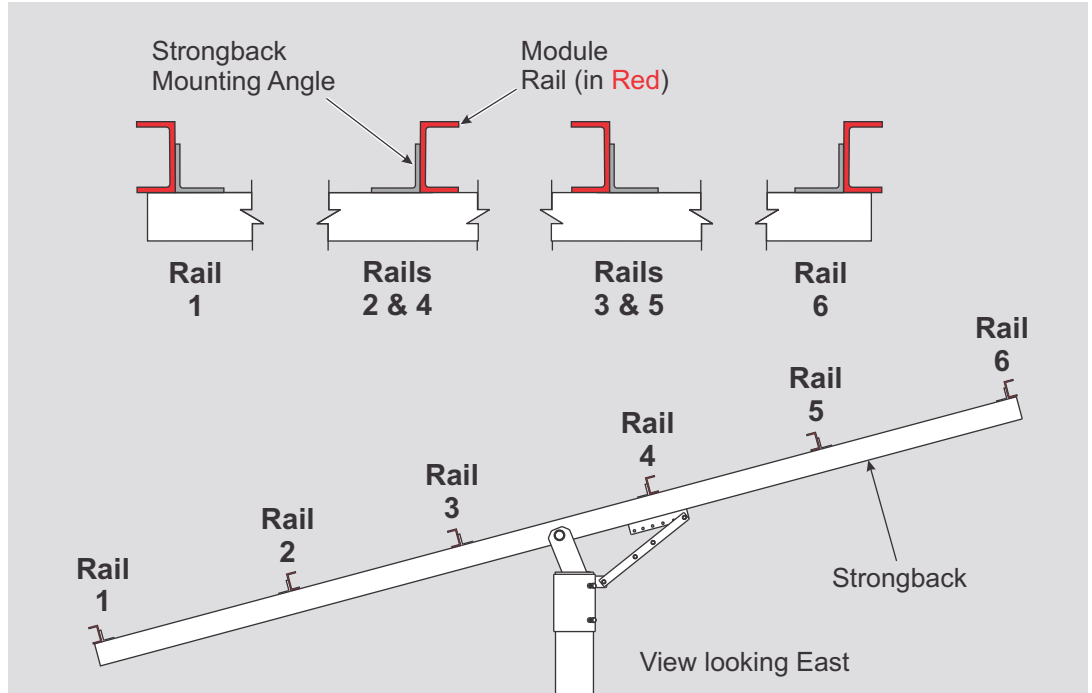
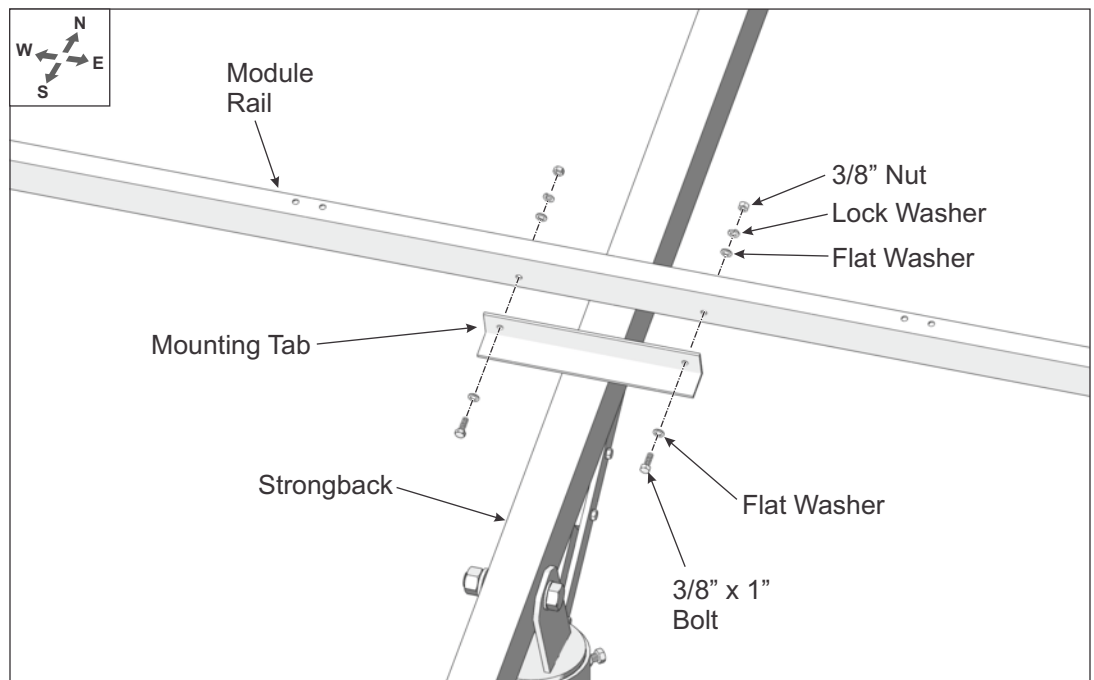
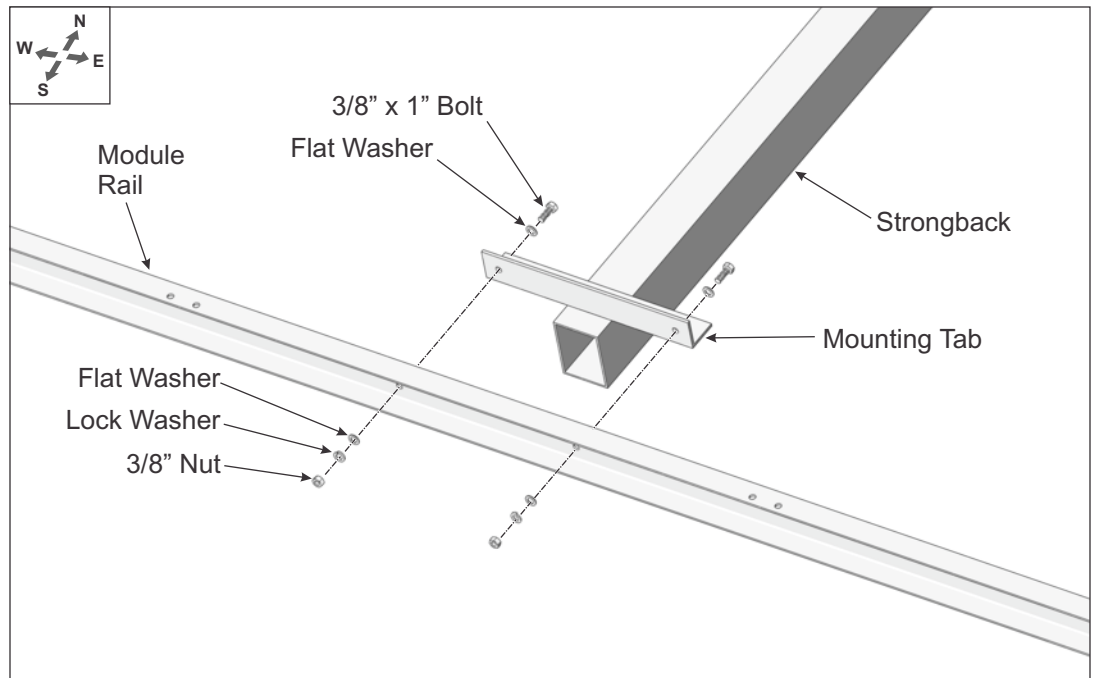

Figure 3-1: Orientation of Module Rails to Strongback Mounting Tabs
Figure 3-2: Installing inboard Module Rails to the Strongback
Figure 3-3: Installing outboard Module Rails to the Strongback
The orientation of the Module Rails to the Strongback is critical to the successful installation of the PV Modules. In Figure 3-1, the location and orientation of the Module Rails are identified using the numbers 1, 2, 3, 4, 5 & 6. Match the Rail number within Figure 3-1 to properly orient the Module Rails to the Strongback.
- A. Referring to Figure 3-1 for orientation of the Module Rails, position and align the Module Rail mounting holes with the holes of the Strongback mounting tabs and secure with 3/8" x 1" bolts and hardware. Finger-tighten for now. (See also Figure 3-2)
- A. Referring to Figure 3-1 for orientation of the outboard Module Rails, position and align the Module Rail mounting holes with the holes of the Strongback mounting tabs and secure with 3/8" x 1" bolts and hardware. Finger-tighten for now. (See also Figure 3-3)